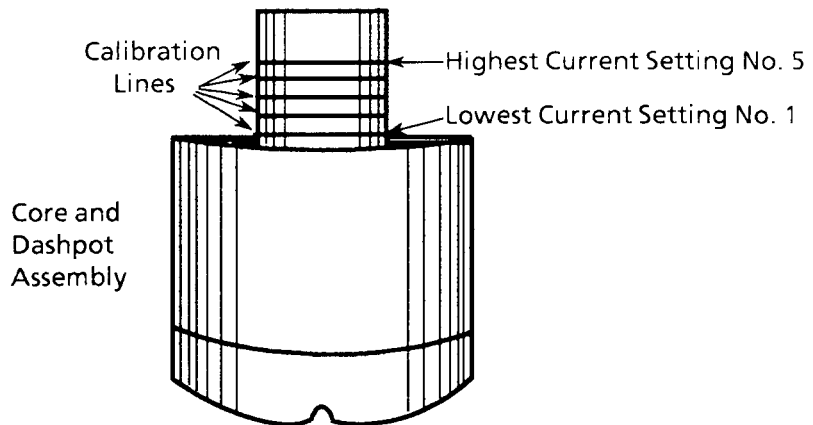

Figure 4-12. Bulletin 810 Relay Current Adjustment
- 4-5.1.1 Operating Current Adjustment.** - The minimum operating current is adjusted by changing the vertical position of the core within the operating coil. Calibration lines on the core correspond to current values stamped on the nameplate. After the core and dashpot assembly is removed, the core is turned up or down on the piston's threaded stem until the line corresponding to the desired operating current is in line with the top edge of the dashpot (Fig. 4-12). The maximum continuous current rating of the coil appears on the relay nameplate. The current at which the relay is set to trip should not exceed this value except when an additional device protects the coil against sustained overcurrent.
WARNING: The red V22 LED located on the Chopper Control Card (Fig. 4-12) which indicates when the Bus is charged and the Chopper Control Card has its operating voltages must not be considered a safety indicator for servicing the dynamic braking system. The LED does not accurately indicate when all voltages have been removed from the circuit. Only a DC voltmeter should be used to test for the absence of voltages before servicing any part of the drive or dynamic braking system.